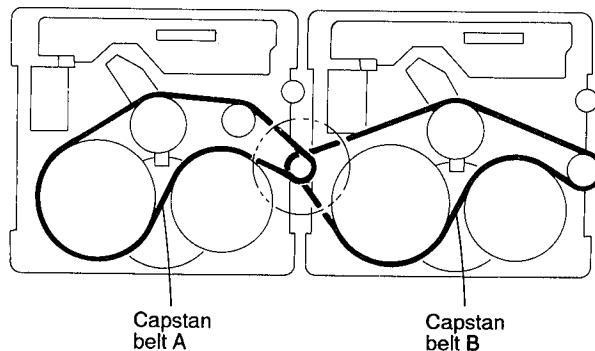

Fig.5-29
**Caution 1:** Be sure to handle the capstan belts so carefully that these belts will not be stained by grease and other foreign matter. Moreover, these belts should be handled while referring to the capstan belt hanging method in Fig. 5-29,5-30.